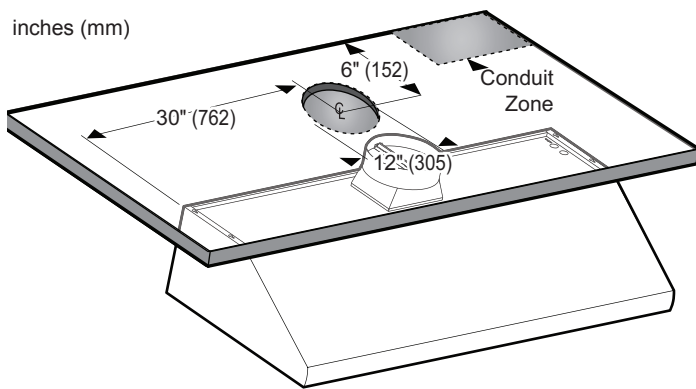

Figure 17: Transition and Conduit Locations
**VERTICAL DISCHARGE** installations require a cutout in the ceiling to accommodate 10" (254 mm) duct and 5/8" (16 mm) diameter clearance hole for 1/2" (12.7 mm) conduit to the j-box (*Figure 17*).